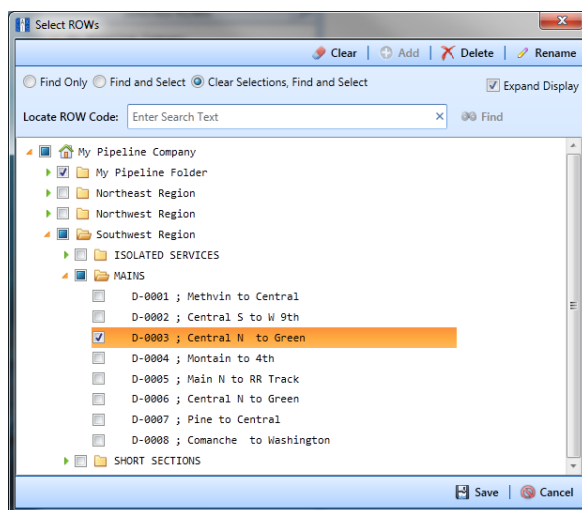

Figure 3-7. Select ROWs
- 1 Click **File > Select ROWs** to open the *Select ROWs* window. Select a pipeline in the hierarchy you want to delete (Figure 3-7).